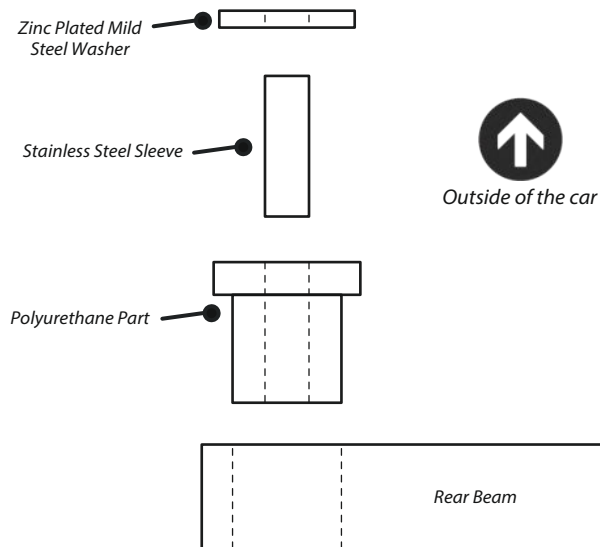

Figure 1
3. Insert the polyurethane parts into the bore of the mount so that the top hat section sits on the outside surface of the mount, as shown in figure 1.